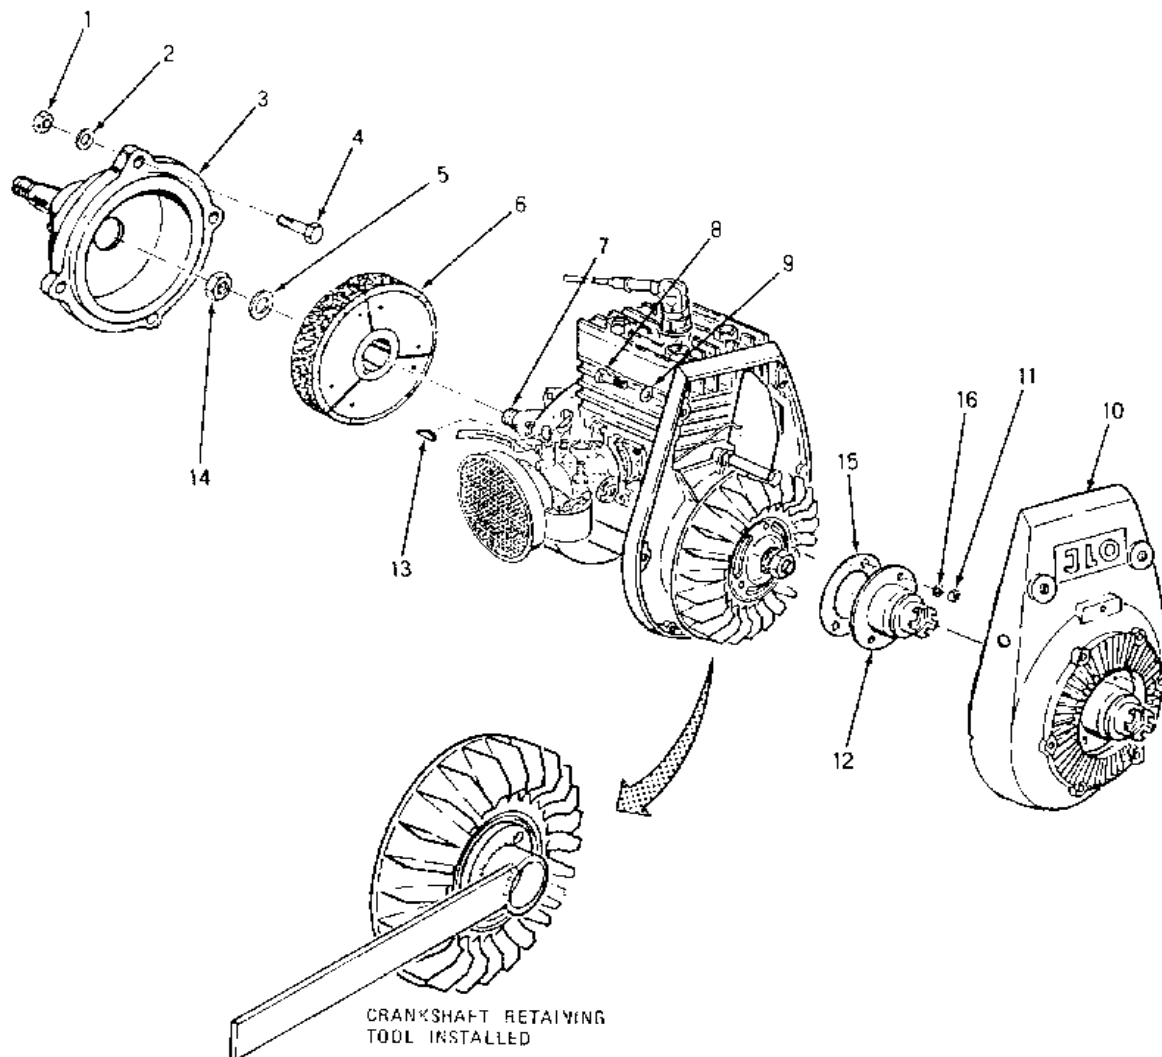

Figure 14, Repair Clutch Assembly
Step 16: Repair clutch assembly. (Figure 14)
- Remove four nuts (1), washers (2), and bolts (4).
- Using hard rubber mallet, tap edges of housing (3) to loosen seal. Once seal is broken, twist clutch housing (3) back and forth and remove from engine.
- Remove four small bolts and two large bolts (8), washers (9) and cover (10) then remove three nuts (11), washers (16), carrier (12) and gasket (15).
- Install crankshaft-retaining tool on the three exposed screws on fan to keep shaft from turning. Secure with three nuts (11).
- Remove nut (14) and lockwasher (5).
- Using clutch puller, remove clutch (6) from crankshaft (7).
- Remove key (13).